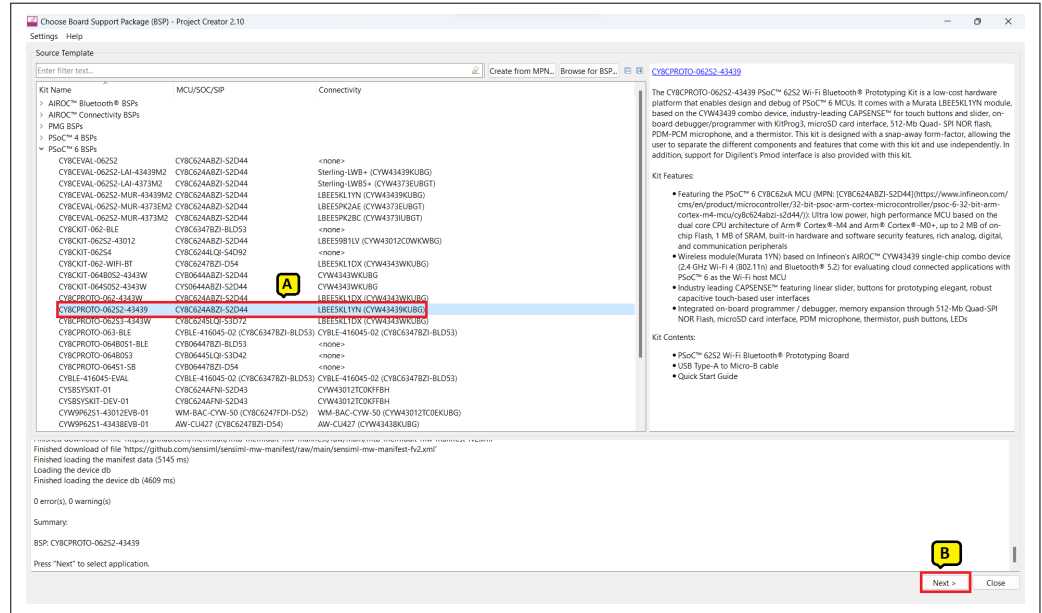

Figure 14 Choose target hardware
- a. In the **Choose Board Support Package (BSP)** dialog, choose the **Kit Name** that you have. The steps that follow use **CY8CPROTO-062S2-43439**. See Figure 14 for help with this step